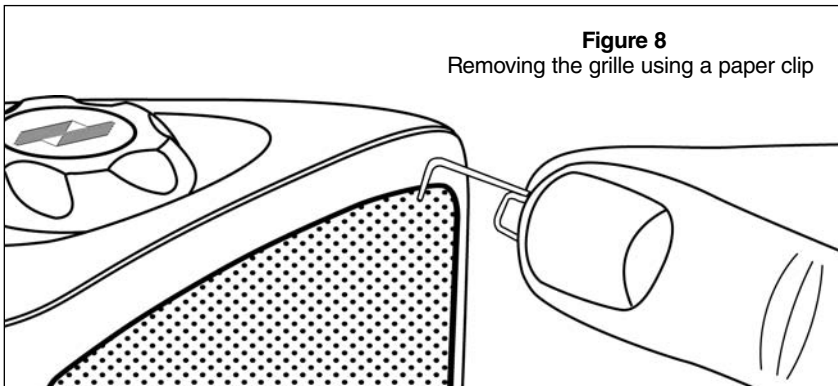

Figure 8
1. Separate the parts of the speaker. You should remove the brackets and the bracket knobs. Remove the grille by hooking it with a bent paper clip or the tip of an awl and pulling it away from the cabinet (**See Figure 8**).